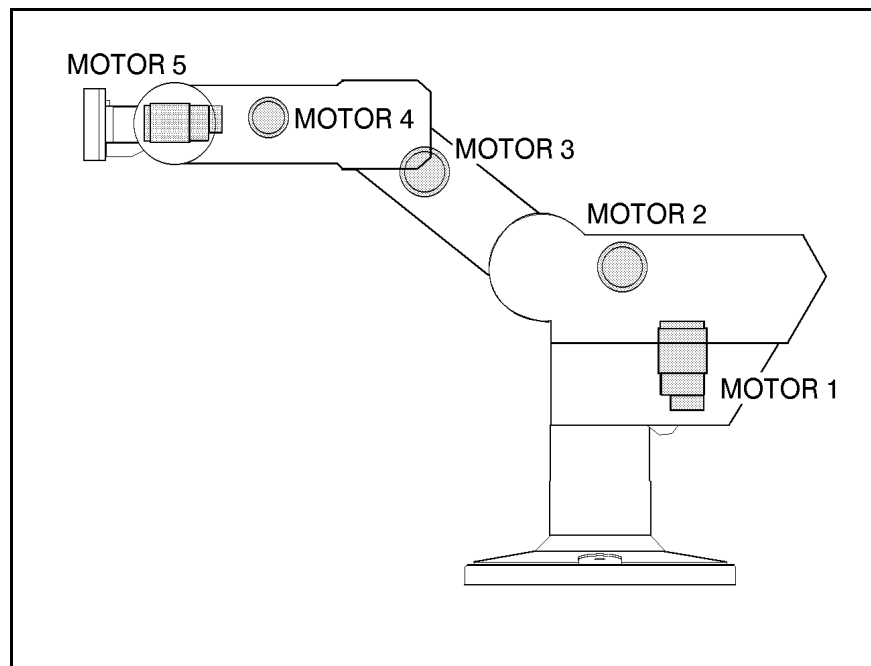

Figure 6-2: Motor Locations in SCORBOT-ER IX
- Since mounting motors on the robot arm adds to the robot's weight and inertia, the robot motors must be light and compact, yet powerful. As shown in Figure 6-2, the motors of the **SCORBOT-ER IX** are located on the axes they drive, with a two-stage (axes 1–4) or one-stage (axis 5) transmission.